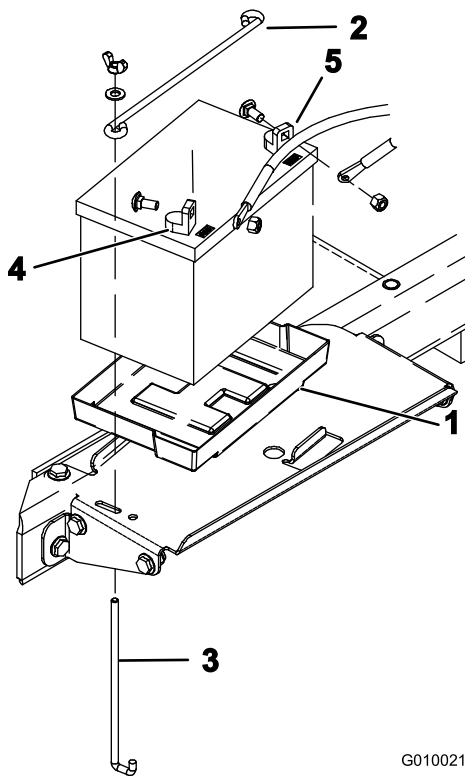

**Figure 14**
- Assemble the battery into the tray in the battery compartment (Figure 14). Position the battery so that the terminals are aligned the outward.